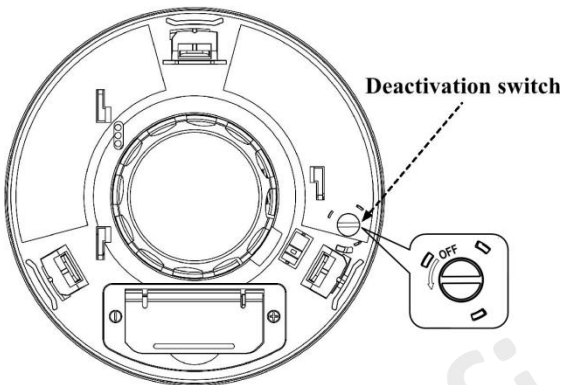

Figure12: Location of deactivation switch for model
2. Tear off "**Deactivation Switch**" sticker. The location of deactivation switch show in **Figure 12**.